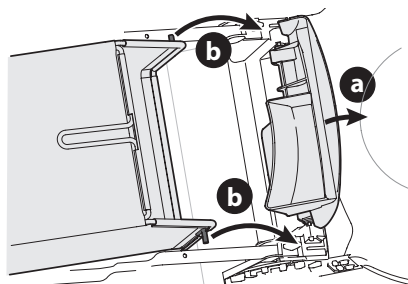

Figure 12
2. Follow steps below to attach grass catcher (Figure 12).